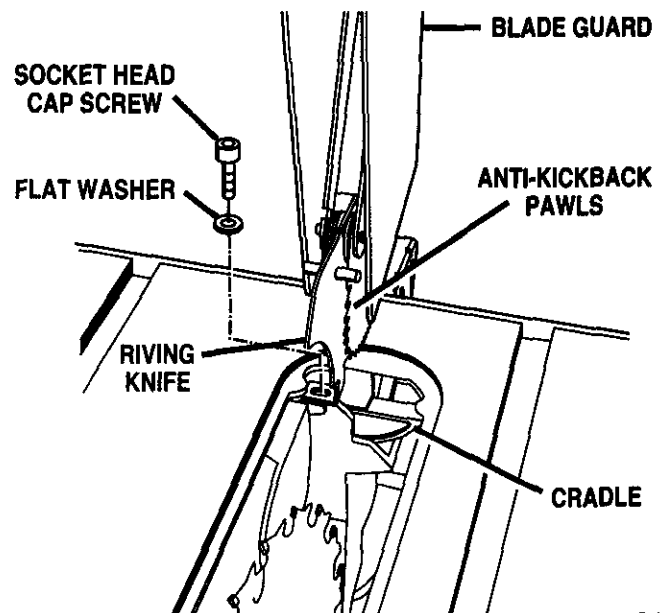

Fig. 31
- Insert the third socket head screw and a flat washer into the screw hole in the saw table under the throat plate. Securely tighten with a 5 mm hex key. See Figure 31.